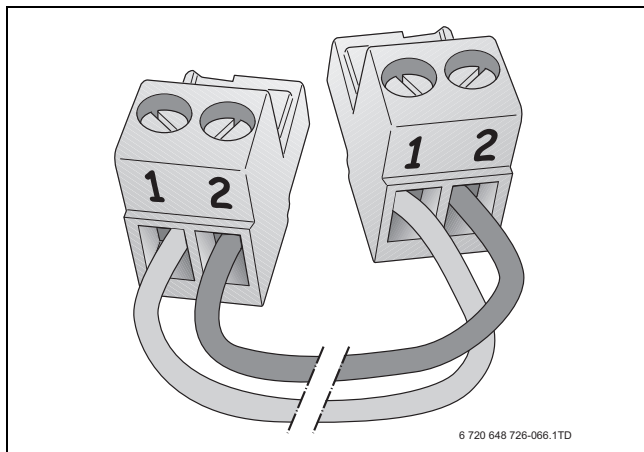

Fig. 66 EMS bus polarity
- ▶ Make a sufficiently long EMS bus connection cable, using a 2-core cable of 0.4 - 0.75 mm² and the connector enclosed with the module (→ fig. 66). Important: Use the connector of the same colour as the connections on the module.